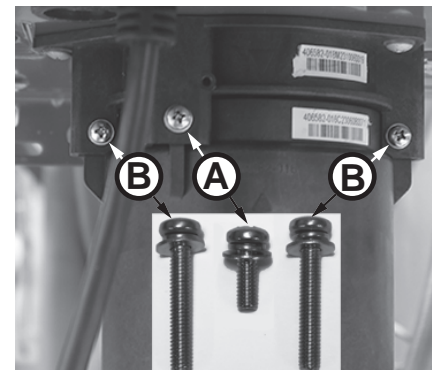

Figure 216 - Identify cartridge screws
- 6 Locate the three (3) screws securing the X3®/Bypass cartridge as shown in Figure 216. Remove the **(A)** M4-12mm screw and the two **(B)** M4-25mm screws from cartridge. Place screws aside in a safe place for reinstallation.